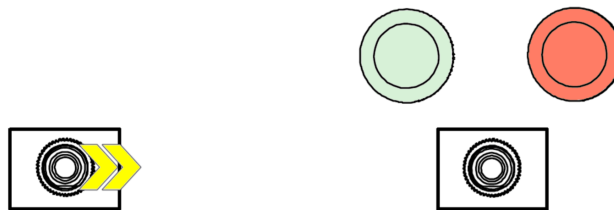

Figure 7: Simulating a breaker
1. Place device selector switch in right position (Figure 7).